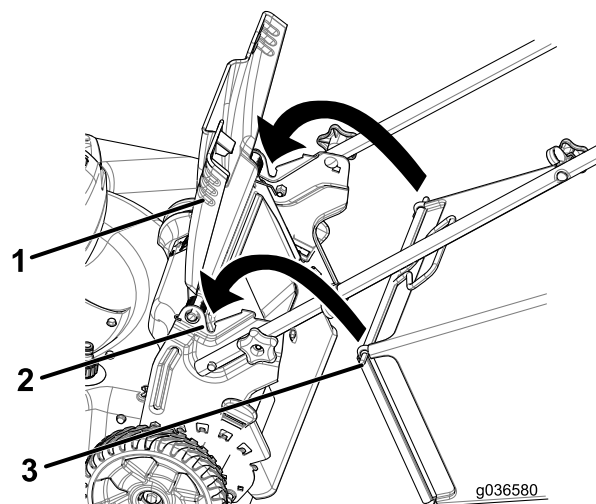

Figure 25
1. Raise and hold up the rear deflector (Figure 25).
2. Install the grass bag, ensuring that the pins on the bag rest in the notches on the handle (Figure 25).